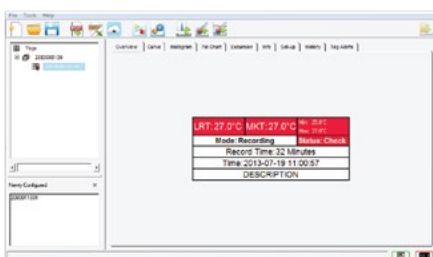
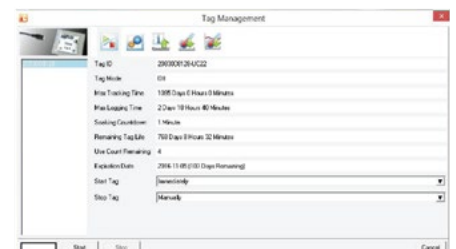

Figure 1
Figure 5
3. Verify that the recorder is OFF. The recorder status is displayed when you plug the LOG-IC into the computer (Figure 1). If the recorder is not OFF, click the 'Select Tag Mode' icon and click the STOP button (Figure 5).
These fields will be displayed in the overview screen when the LOG-IC is downloaded (Figure 1).
6. Return to the 'Select Tag Mode' icon and set start and stop tag preferences (Figure 5). Options for starting the tag are Immediately, with Tag Button Press, and at Auto Awake Time.
10. To print the PDF report, click on the PDF icon (Action Icon 4), highlight the tag ID (See Figure 1), click 'Save' and the report will appear.